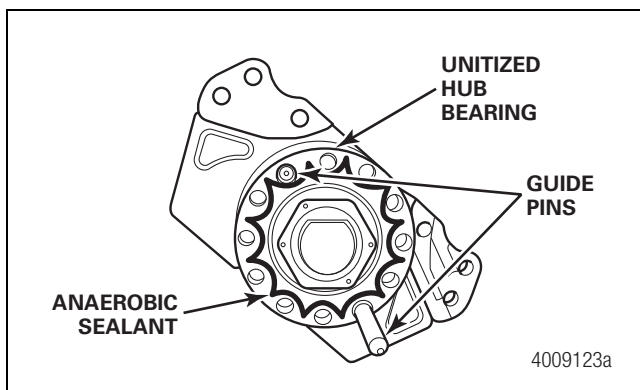

Figure 6.25
7. Install guide pins (optional) into the unitized hub bearing to aid in the alignment and installation of the rotor and wheel adapter. Refer to Section 11. Figure 6.25.